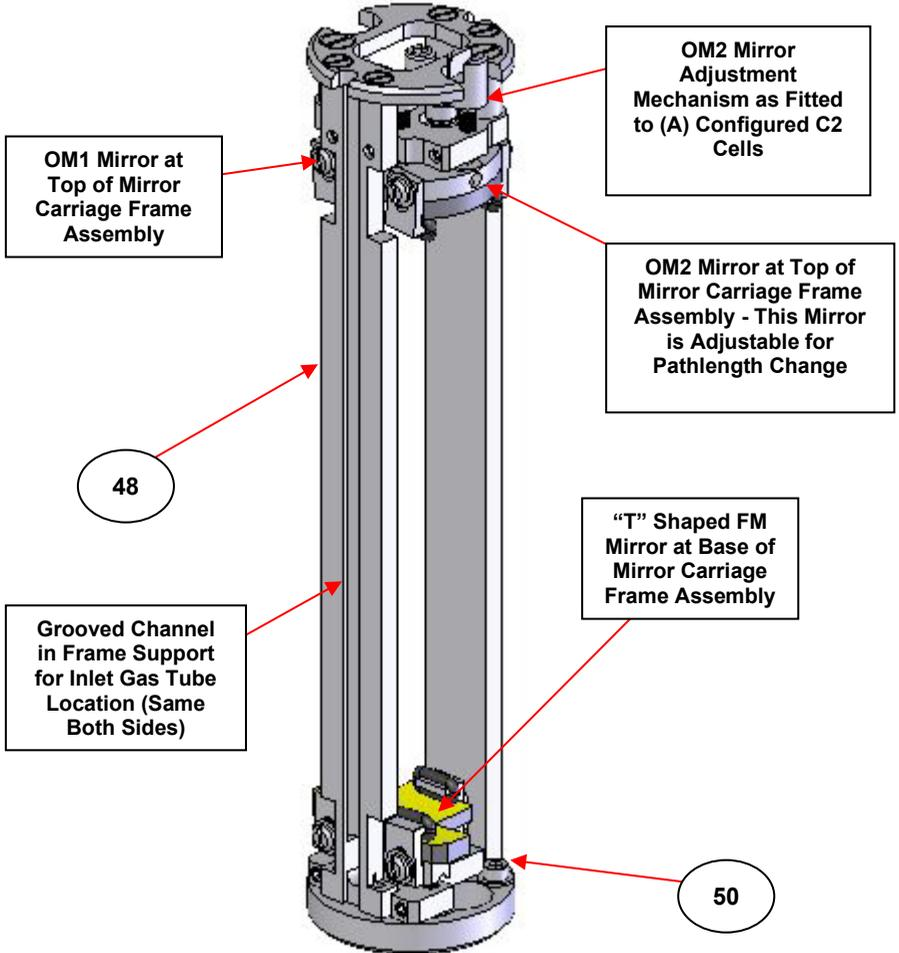

Fig 30. C2 Cell Mirror Carriage Frame Assembly Detail
With removal of the mirror carriage frame assembly (48) for easier access, the frame and mirrors can be cleaned using suitable solvents and cleaning materials. Care must be taken when cleaning the gold mirrored surfaces. Only **very fine lens tissue** should be used to avoid abrasion and consequent possible loss of signal throughput. The removed Cyclone™ C2 gas cell mirror carriage assembly (48) is shown in a little more detail for the mirrors and components as Fig 30.
Before refitting of the outer cylinder assembly (44) check that the lower sealing O-ring (49) is in a good and suitable condition. Take the outer cylinder assembly (44) and place over the mirror carriage frame (48) now secured to the optical unit (1) in the same orientation as it was removed. It is essential that the long gas inlet tube (13) inside the outer cylinder assembly locates correctly with the grooved channel in the mirror carriage frame and that if an adjustable pathlength (A) version of gas cell is being used, that the micrometer adjustment screw (19) underside tab relocates with the slot in the OM2 mirror adjustment mechanism. (See both details on Fig 30.)